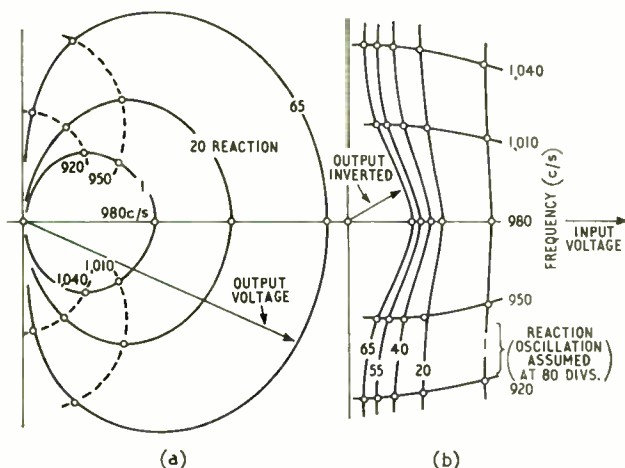

Fig. 8. Computed non-linear performance. Compare Fig. 7: computation is based on the approximation that the curve of Fig. 4(b) is a parabola
When  $V_c \geq 50$  mV Figs. 7 and 8 apply. Fig. 8 has been calculated from equation (20) using values of  $\beta$  slightly different from Fig. 4(b) because a parabolic form of the curve had to be assumed when making the computation. The agreement with Fig. 7, though not exact, serves as a further check on equation (20).